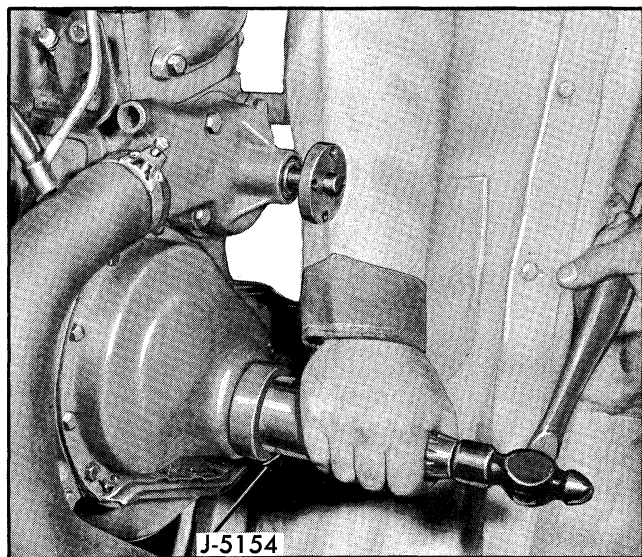

Fig. 6-43 Installing Timing Cover Oil Seal
2. Install new lip seal with lip toward inside of cover and drive it into position with tool J-5154 (Fig. 6-43).